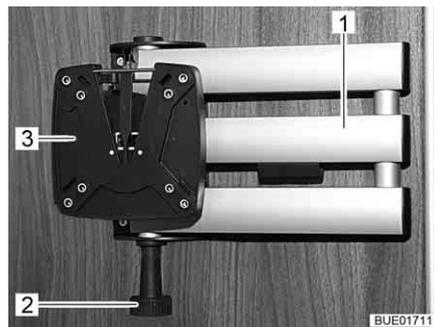

Fig. 61 Holder with jointed arm
- Pull the release knob (Fig. 61,2). The jointed arm (Fig. 61,1) is unlocked.
- Turn the flat screen back into the original position until you hear the holder (Fig. 61,3) engage in the lock.